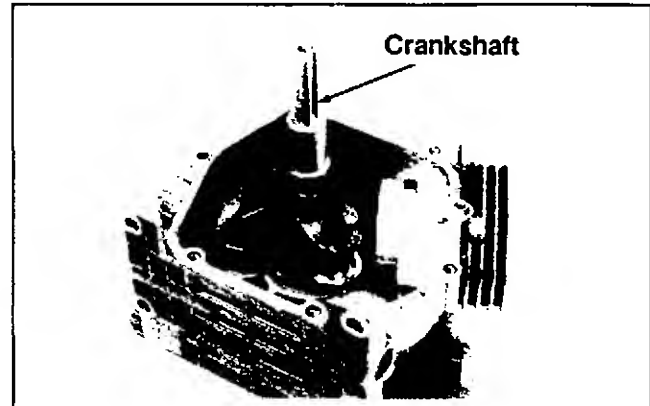

Figure 9-33. Removing Crankshaft.
2. On models with ball bearings, press the crankshaft from the crankcase. See Figure 9-33. Note: The crankshaft can be lifted out on those (CH6 models) using sleeve bearing instead of ball bearings.